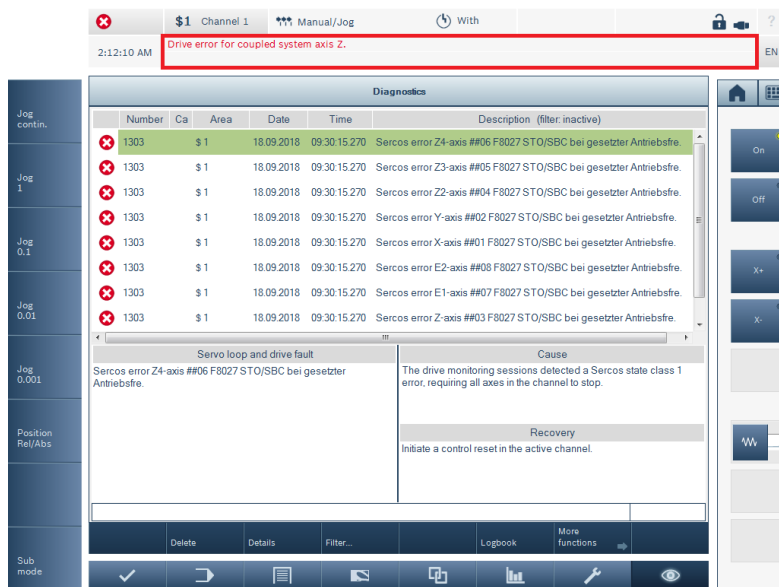

Figure 34
- Wait until the print sheet has cooled down to 90°C, so the model comes loose from the table. Thereafter, lift or push out the model. The temperature can be seen by navigating to the Error message screen shown in chapter 5.7.1.3 figure 34 and by pressing “more functions” followed by “parameter variable” where the temperature is displayed in the variable “BedTempActual”.
1. Error messages are shown in the message box (fig 34).